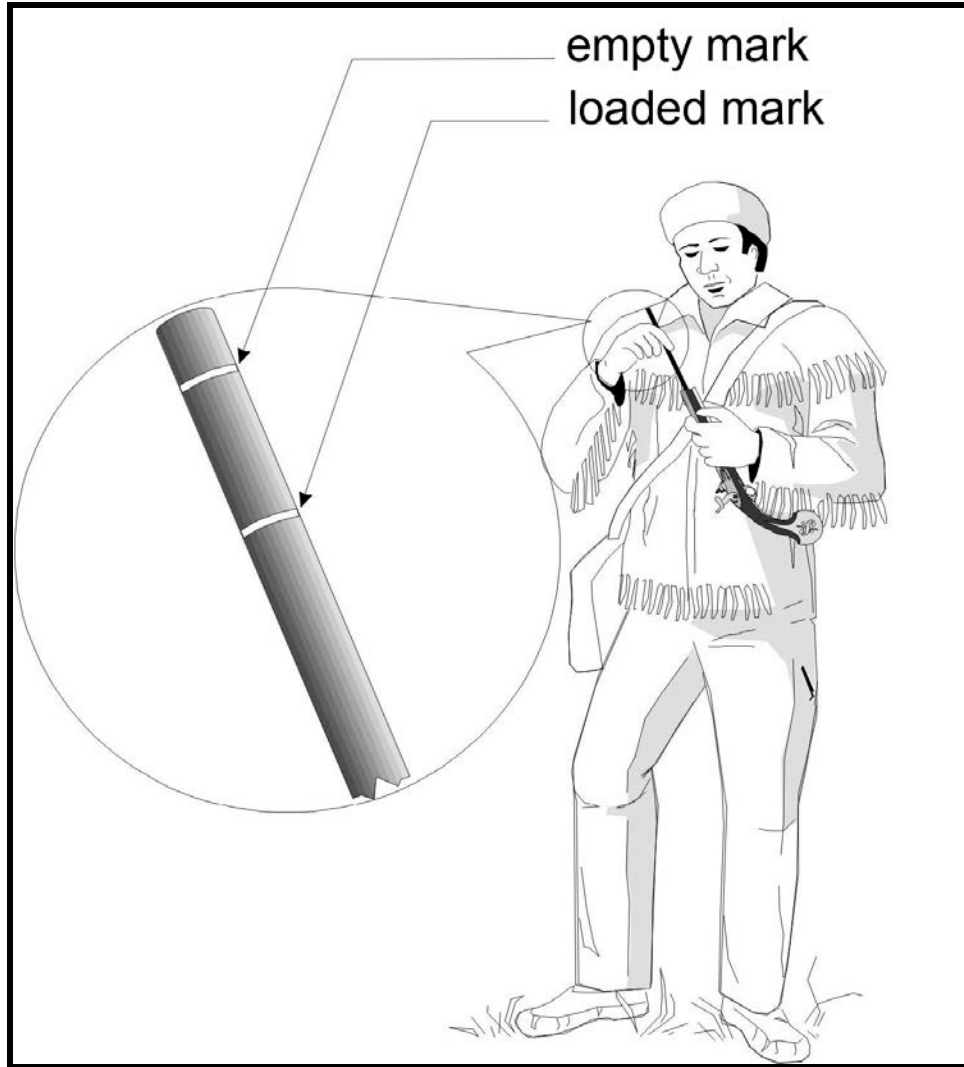

Figure 88. Correctly marked ramrod
- c. In addition, it is difficult to tell if there is already a charge loaded into the barrel of a muzzleloader. Shooters should mark the firearm's ramrod at a level that shows the bore depth when the bore is empty (Figure 88). When the marked ramrod is inserted into the barrel, it shows whether or not the firearm is loaded.